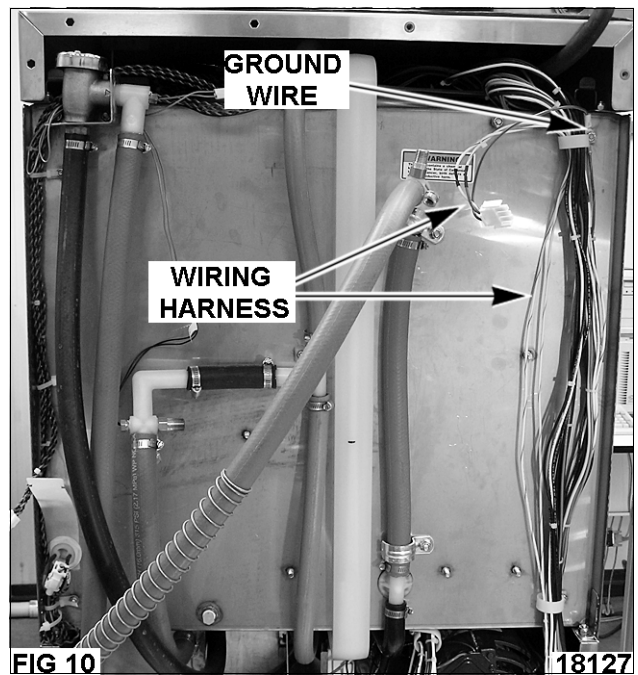
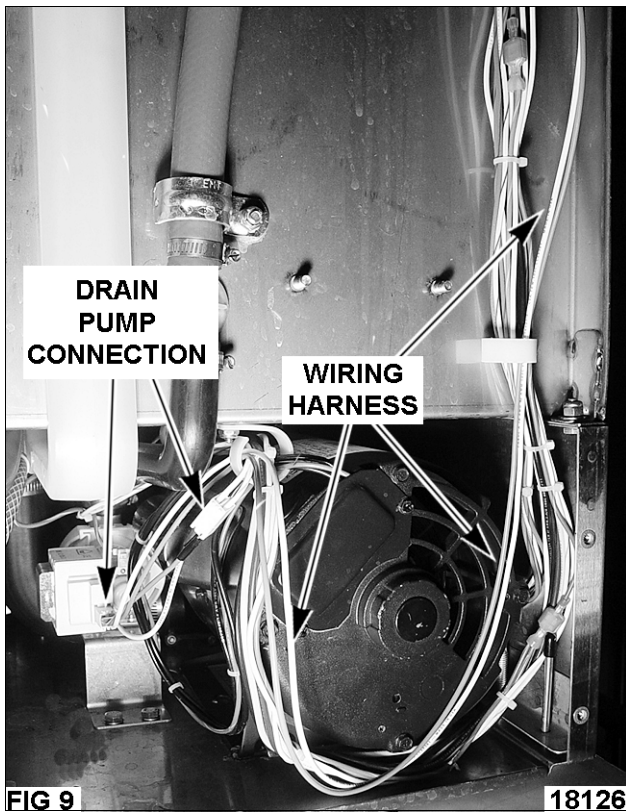
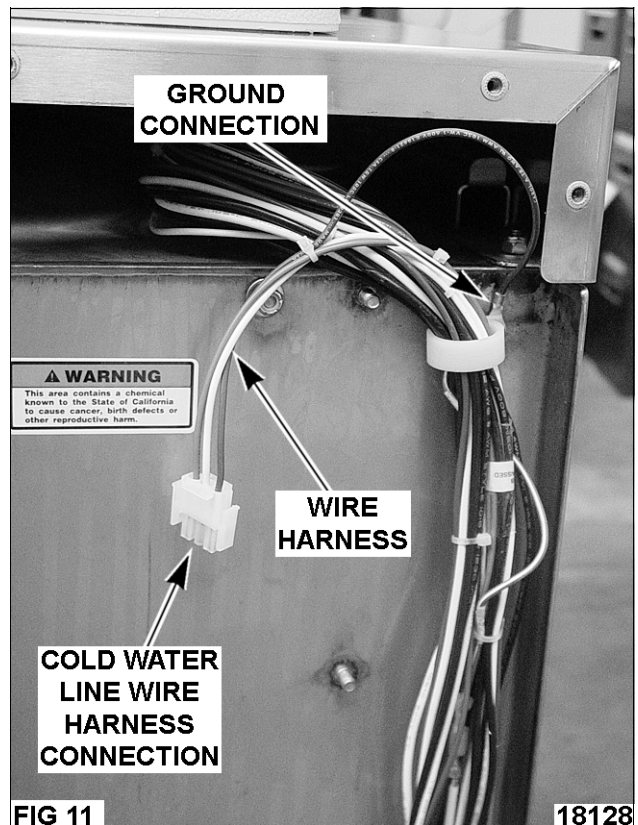

FIG 10 18127
FIG 9 18126
FIG 11 18128
2. Route wiring harness per Fig 9, Fig 10, and Fig 11. Route wiring harness in a manner to ensure it is not lying on the bottom of the dishwasher per Fig 9. Make sure ground wire from harness is connected to grounding point on dishwasher per Fig 11.
- Slide strain relief bracket into the panel per Fig. 11.